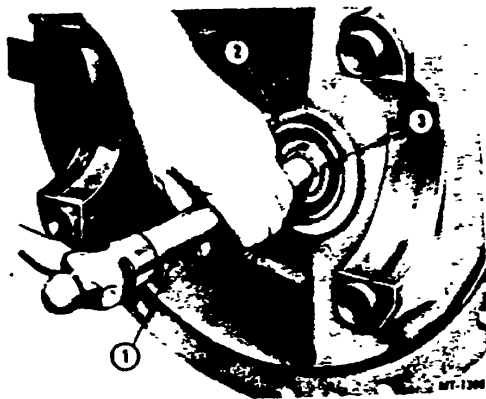

Fig. 4. Loosening Pinion and Cage from Carrier
13. Obtain a brass drift and hammer and strike against rear face of pinion shaft (Fig. 4) to start pinion and cage out of carrier.